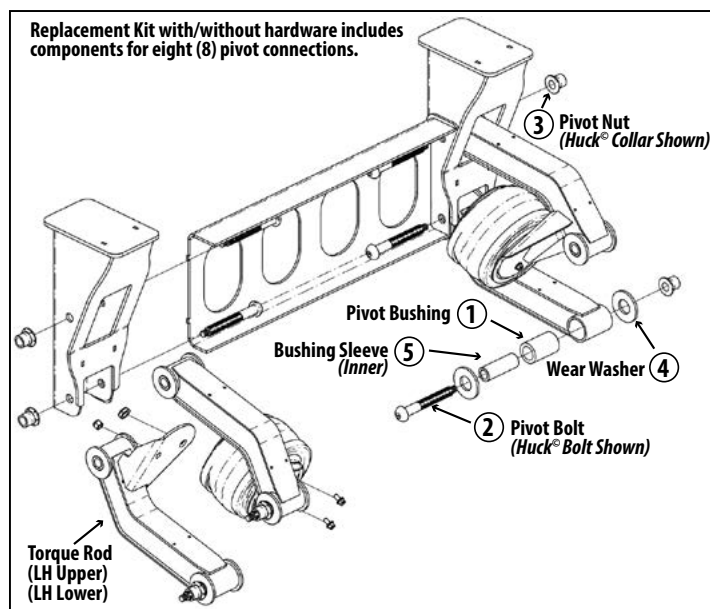

Figure 22.
1. Cut/Grind away Huck® Collars. Take pivot connection apart. Discard pivot hardware and wear washers (Fig 22).